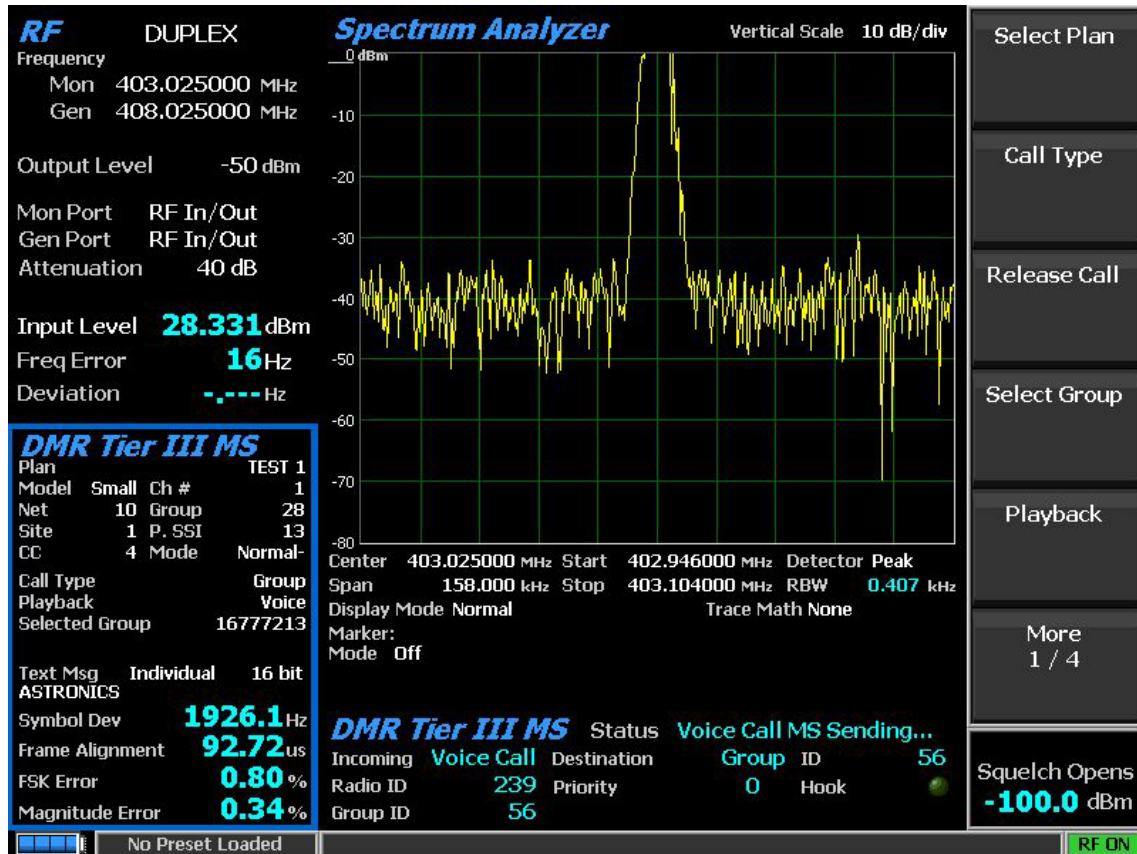

Figure 26 – Group Call Initiated from Radio
1. Press the PTT button on the radio to send a Group call to the R8x00 (see Figure 26).